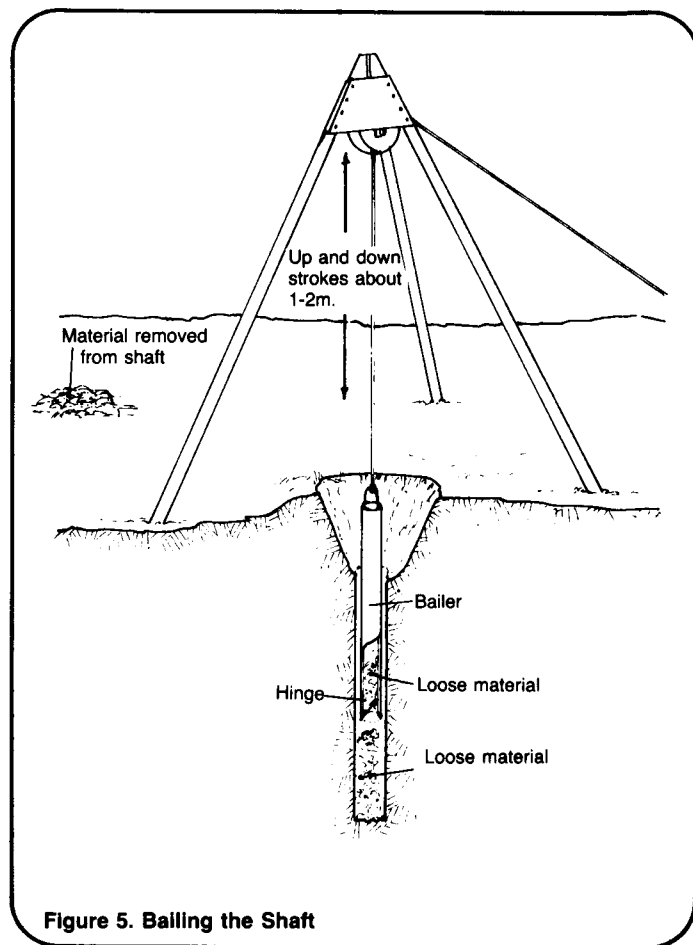

Figure 5. Bailing the Shaft
7. Eventually the paste of cuttings and water will accumulate and prevent the percussion bit from coming in contact with the bottom of the shaft. Exactly when this begins to occur is a matter of experience and judgment. When it does happen, stop drilling and begin bailing. See Figure 5.